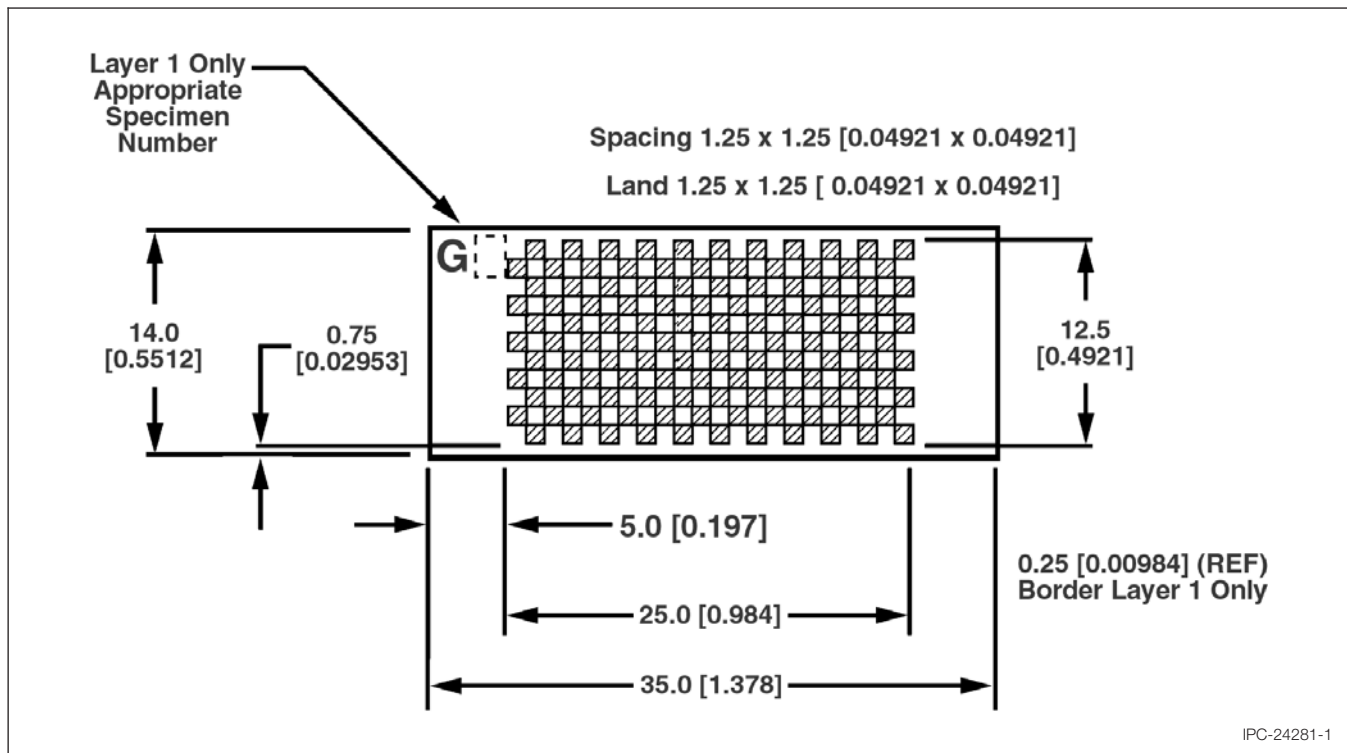

Figure 1 Test Coupon G of IPC-2221, mm [in]
3 Test Specimens The test specimen used shall be the test coupon shown in Figure 1, which has the plated metal surface that is applicable, and coated with solder resist.
6.1 Figure 1 illustrates the coupon that is used for testing. The black squares indicate metal. The white squares indicate the base material. Solder mask is applied over the entire conductor pattern.